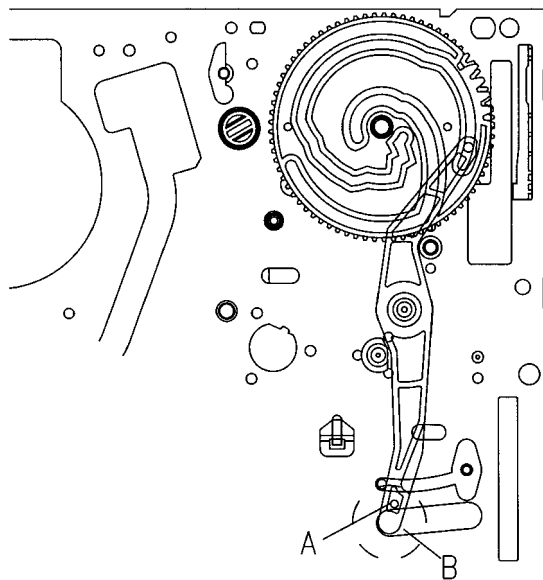

Fig. 2 Mechanical Checks/Relay Lever and Cam Gear Alignment
2. Make sure that the part of the relay lever "A" which is assembled with Connect Plate is fully rotated up to the left end of the hole "B". (Fig. 2)